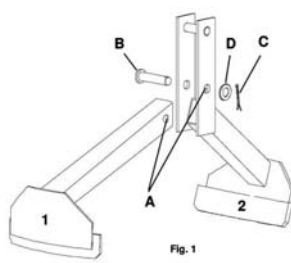

Fig. 1
2.1. The drum lifting clamp is delivered unassembled, so the two parts (1 and 2) need to be mounted, lining them up with the holes (A). Insert the axle (B), position the washer (D) and introduce the pin (C) into the hole in the axle, bending it to prevent it from coming out of the axle. Part (1) should pivot freely (Fig.1).